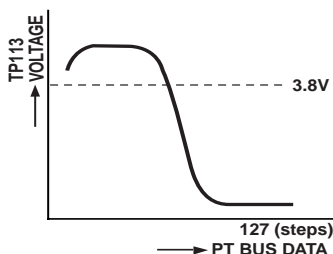

Figure 7. Voltage Change in PT BUS data Adjustments
7. Adjust the data with + or – key for 3.8 ± 1.0 VDC. Voltage change in the PT BUS data adjustments is shown in Figure 7.